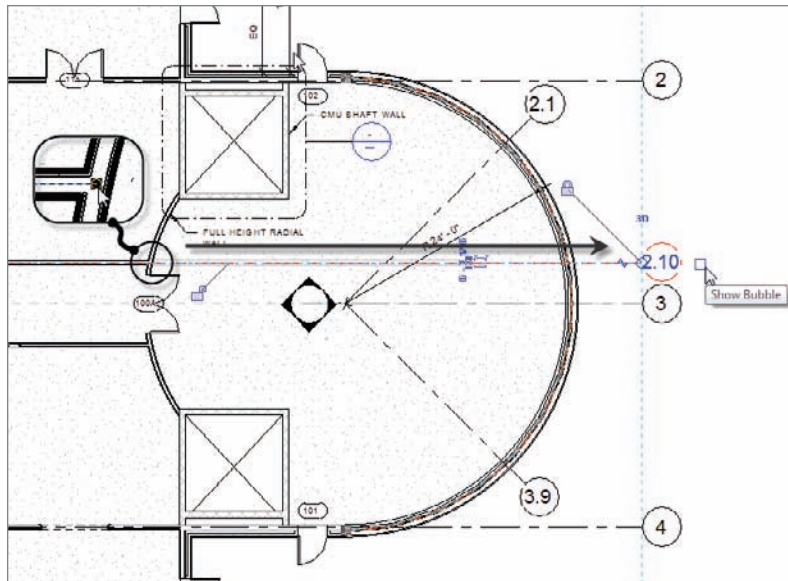

FIGURE 8.10 Dragging the line and turning on the bubble so you can rename the grid to 2.10
4. Pick the blue grip at the end of the line and stretch it to align with the already placed bubbles, as shown in Figure 8.10.
6. Rename the grid to 2.10 (see Figure 8.10).